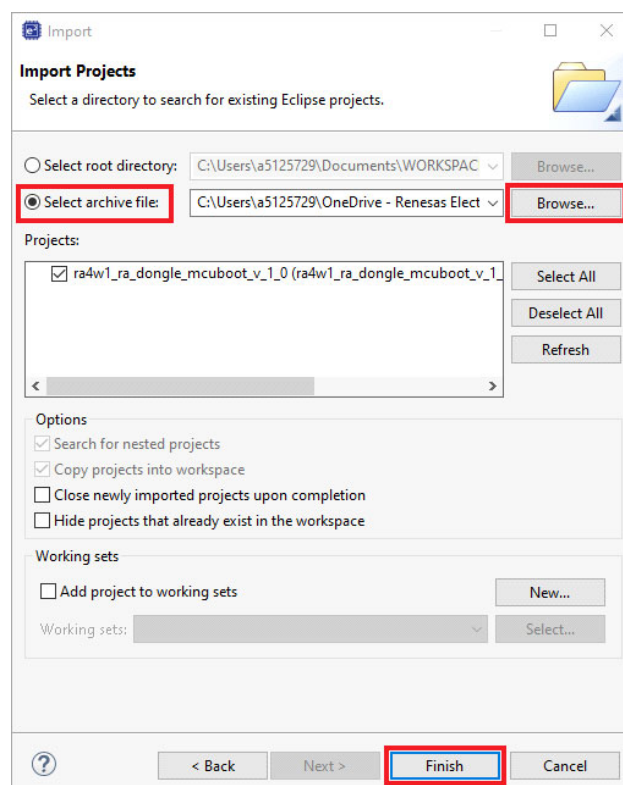

Figure 18. Selection of the Bootloader Project
3. In the Import Projects window, select the **Select archive file** option and click on the **Browse...** button (Figure 18).